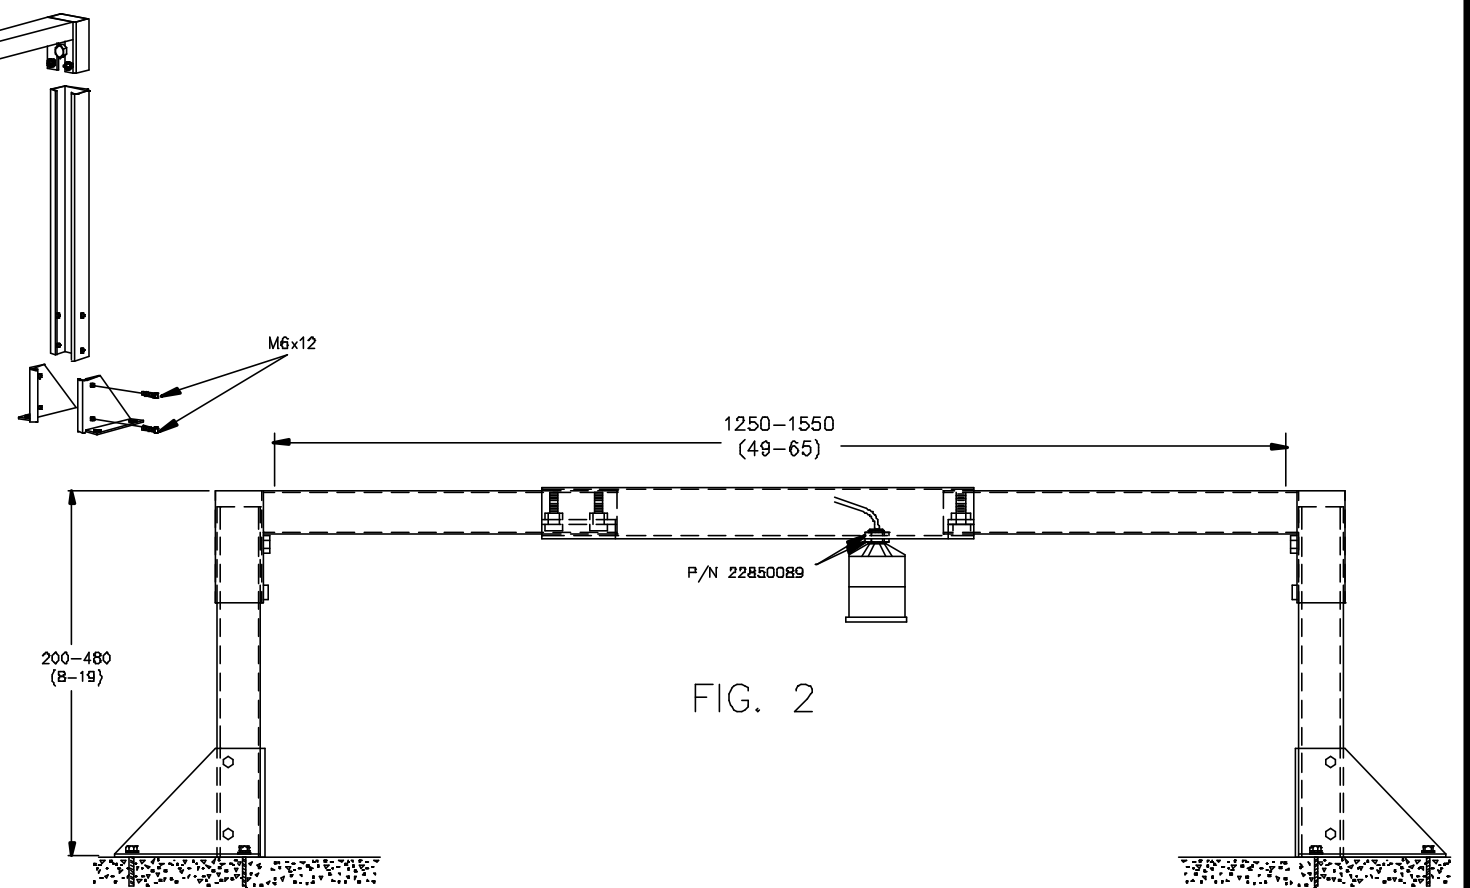

FIG. 2
- 5) WHEN MOUNTING AN XCT, XPS 10, 15, 10F, 15F, XRS OR ST-H TRANSDUCER USE THE TWO 1" NUTS P/N 22850089, TO SECURE THE SENSOR TO THE FMS 350. REFER TO FIG 2. ENSURE THAT WHEN THE SENSOR IS MOUNTED IT WILL BE THE REQUIRED DISTANCE AWAY FROM ANY WALL OR OBSTRUCTION. REFER TO TRANSDUCER INSTRUCTION MANUAL.